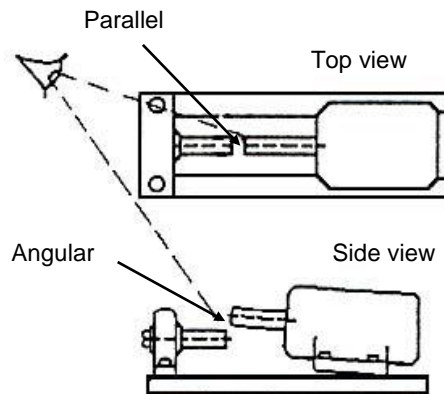

FIG 25.
C. Simultaneous parallel misalignment (viewed from the top) and angular misalignment (viewed from the side). (Fig 25)